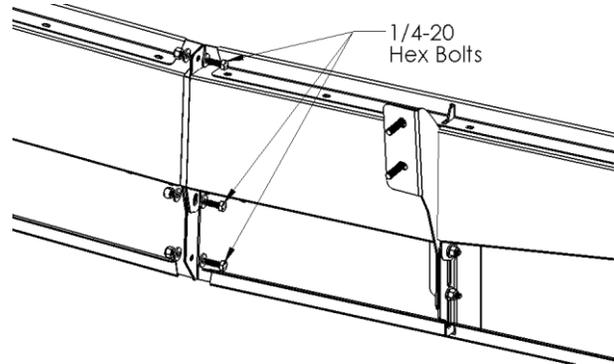

FIGURE 11 – Center bolts, shown from rear view
- c. Install (3) 1/4-20 hex head bolts through center flanges of visor skins to connect them together. Use a flat washer on each side, and secure with locknut. Note that the middle bolt will also secure the center Wire Cover Brackets (See FIGURE 11).